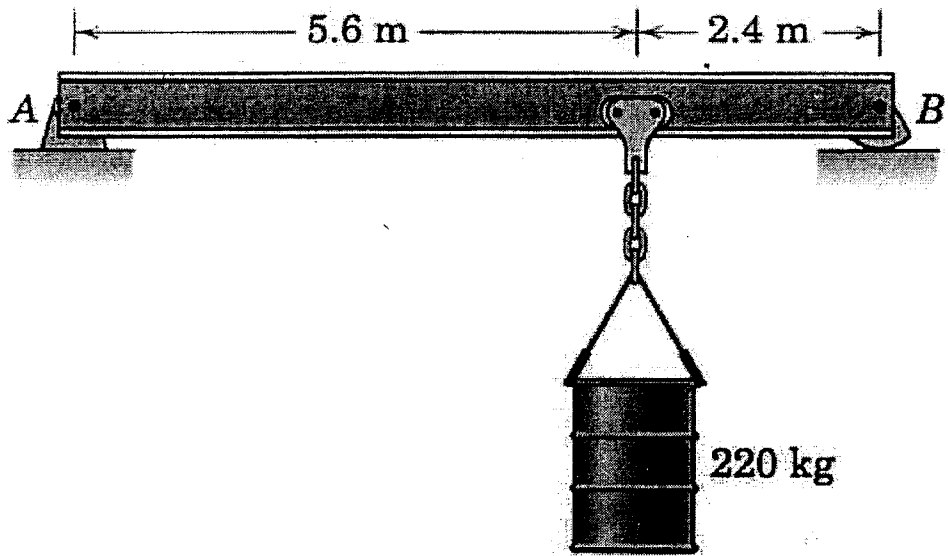

Fig.2.
- 2(a) The 450 kg uniform I-beam supports a load, having a total mass of 220 kg, shown in Fig.2. Determine the reactions at the supports. (3)